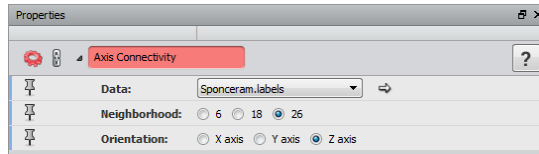

Figure 20.6: Axis Connectivity Module Configuration
3. Apply an *Axis Connectivity* module on the `Sponceram.labels`. Select a *Neighborhood* of 26 voxels in the *neighborhood* port. This allows keeping only the connected porosity of the sample (see Figure 20.6).